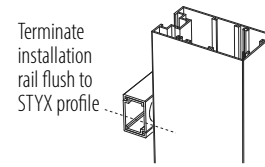

Figure 1b
- The installation rails should line up flush with where the first STYX profile is to be placed (Figure 1b)